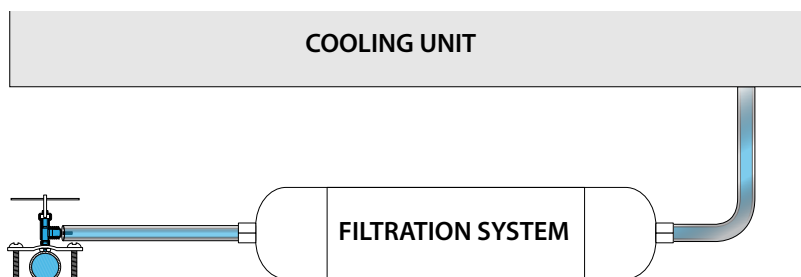

Figure 2
- The water supply should pass through either a water-softener or a filtration system before reaching the unit as shown in **Figure 2**.